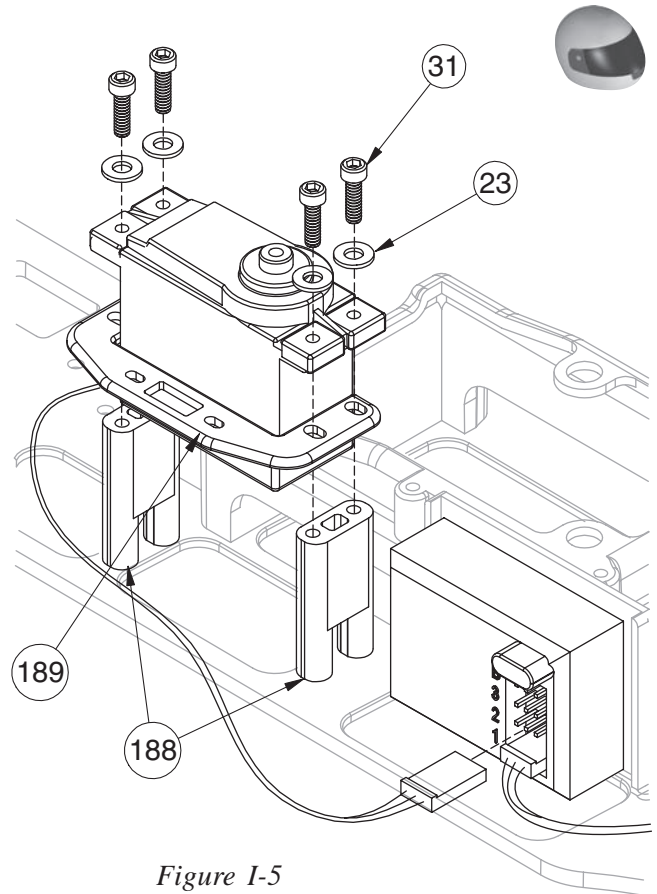

Figure I-5
- ❑ 2. Route the servo lead and plug through the slot in the bottom of the **front** Servo Mount (188) and plug it into the slot marked "Channel 2" in the receiver.
- ❑ 3. Position the throttle servo and Switch Mount (189) over the Throttle Servo Mounts so that the servo output shaft is to the **front of the truck**, and the Switch Mount is to the right, as shown in Figure I-5.
- ❑ 4. Place a #4 Washer (23) over each of four 4-40 x 1/2" Cap-Head Screws (31). Thread a Screw through each of the four Grommets in the servo, through the slots in the Switch Mount, and into the four holes in the top of the Servo Mounting Posts.